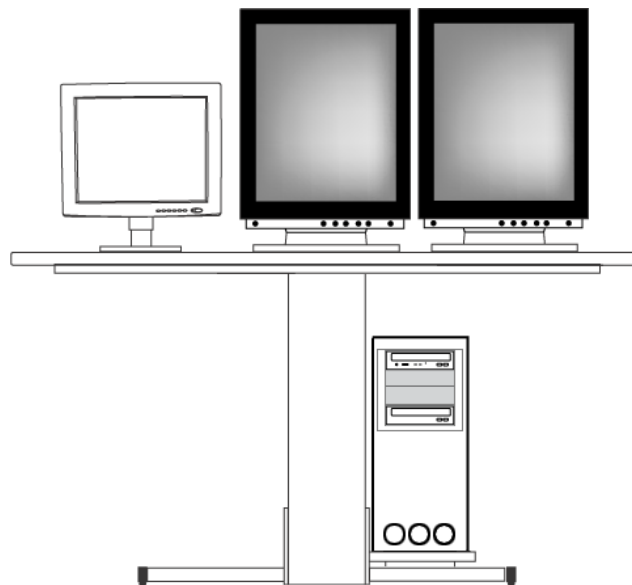

Fig. 1 Computer placement
- Place the computer on the shelf according to Fig. 1.